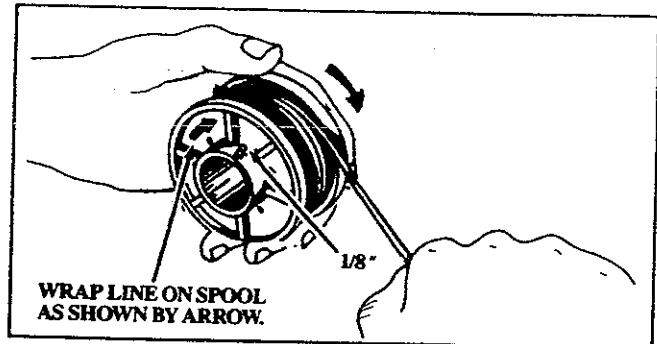

Figure 21
- 3). Insert 1/16 to 1/8 inch of the end of the Line through the hole in the inner rim of the Spool. Figure 21. Allow no more than 1/8 inch of Line to extend beyond the rim to avoid interference with the tapping action.
- 4). Wrap the Line firmly and evenly onto Spool in a clockwise direction as shown by arrow on Spool. Figure 21.